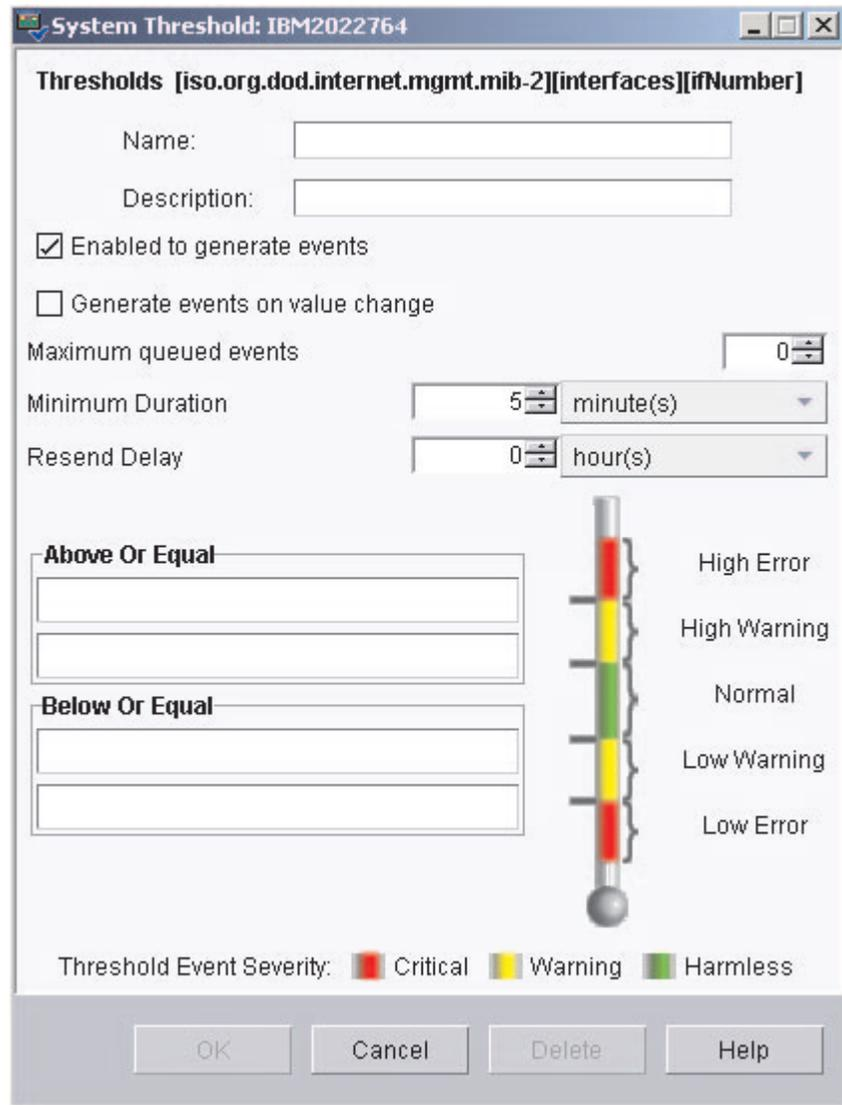
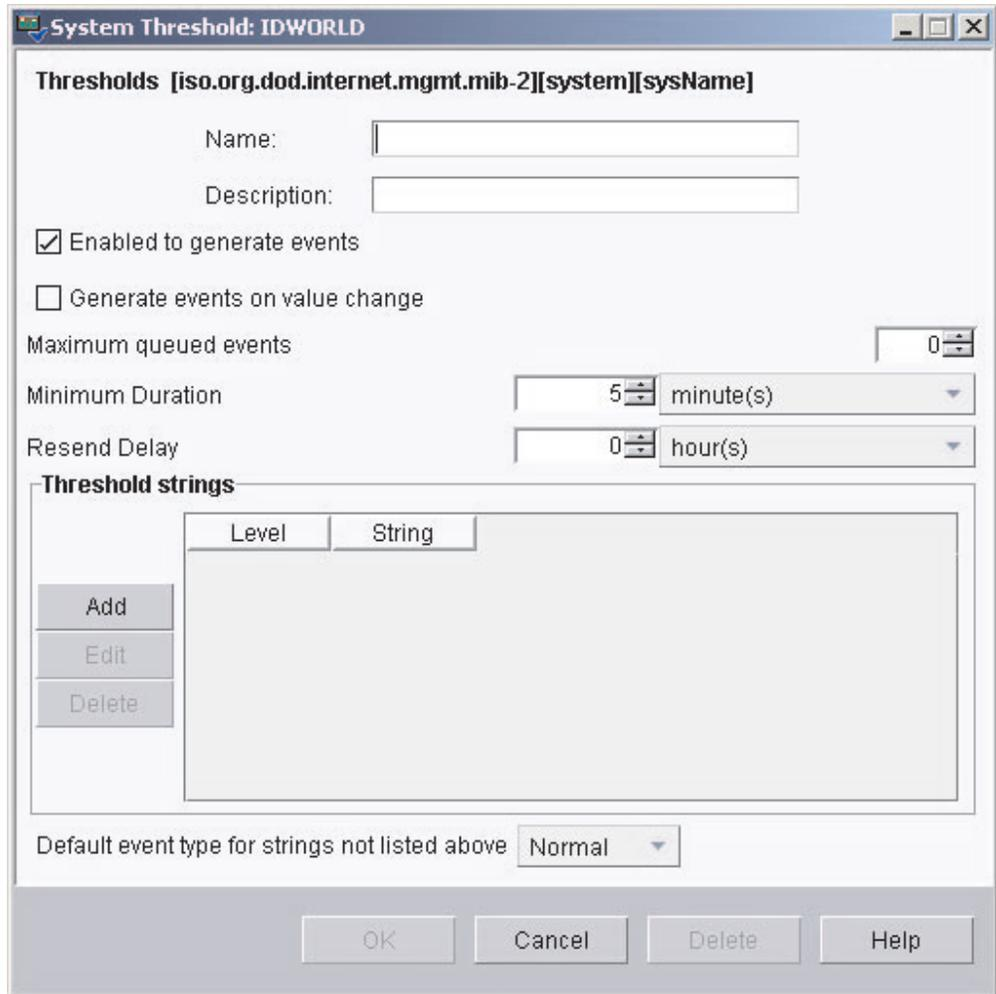

Figure 27. System Threshold window for setting numeric thresholds
Figure 28. System Threshold window for setting text threshold strings
3. In the Selected Resources pane, right-click the resource attribute you want to monitor; then, click **Individual Threshold** if you dropped the Resource Monitors task onto an individual managed system or device. Or, click **Group Threshold** if you dropped the Resource Monitors task onto a group. The System Threshold window opens, and depending on whether the resource-monitor threshold is numeric (Figure 27 on page 45) or a text string (Figure 28 on page 46), you see the applicable window.